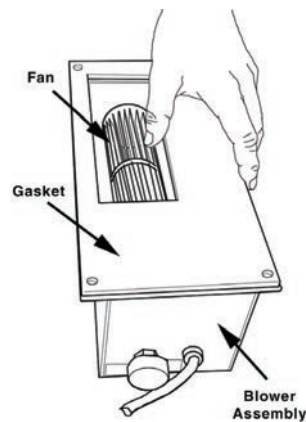

Figure 3 Blower Option
10. Place blower gasket onto blower assembly so as not to obstruct the air flow from the fan (figure 3).